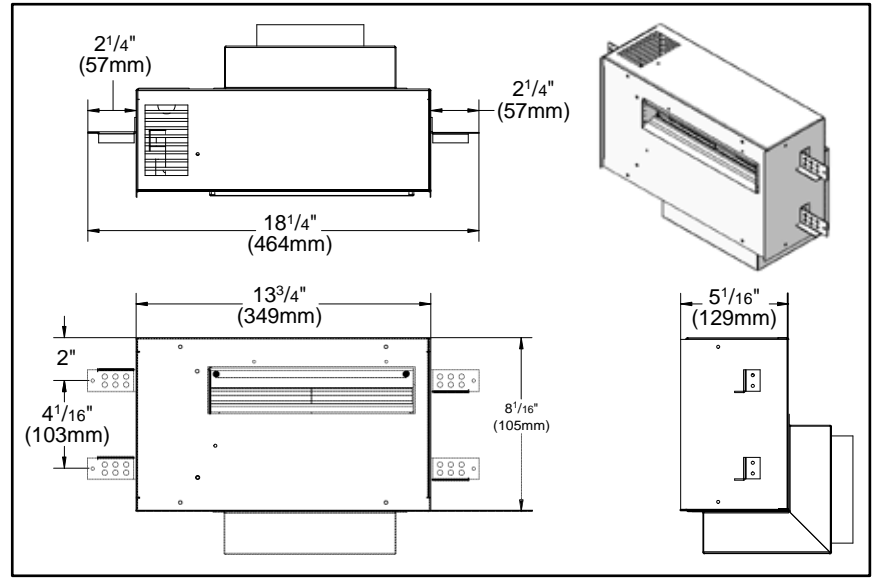
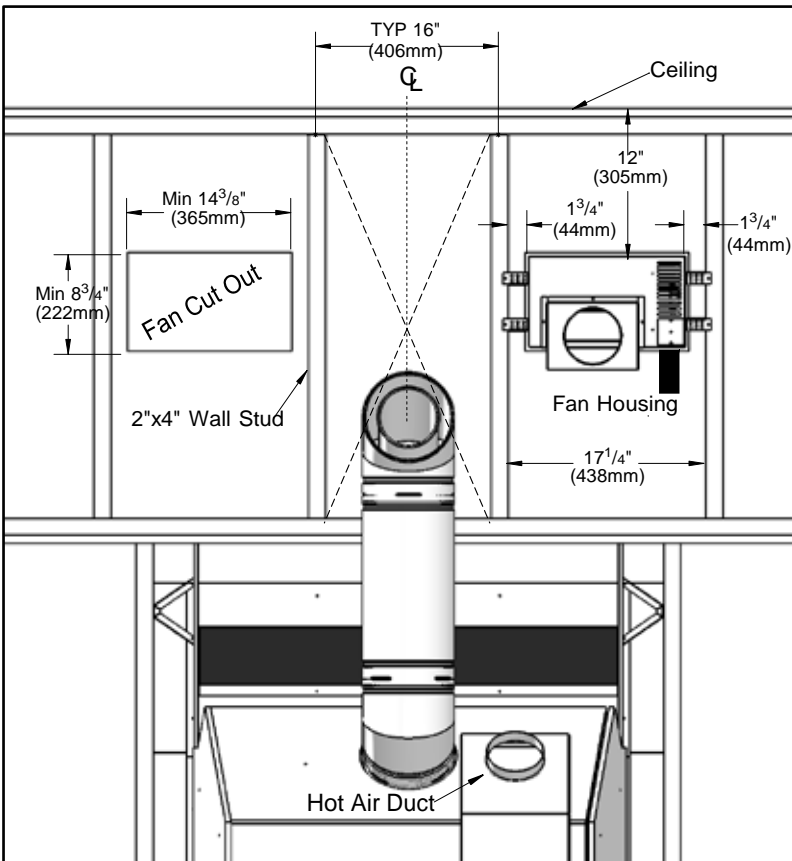

Figure 5: Fan housing overall dimensions.
Figure 6: Minimum Installation Clearances for Fan.
4. With the “Figure 5: fan housing overall Dimensions.” and “Figure 6: Minimum Installation Clearances for fan.”